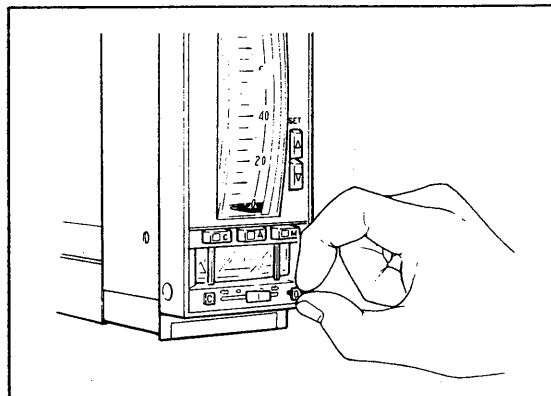

Figure 5-2-4. Mounting Control Valve Action Label.
- (1) Mounting control valve action labels (Figure 5-2-4).